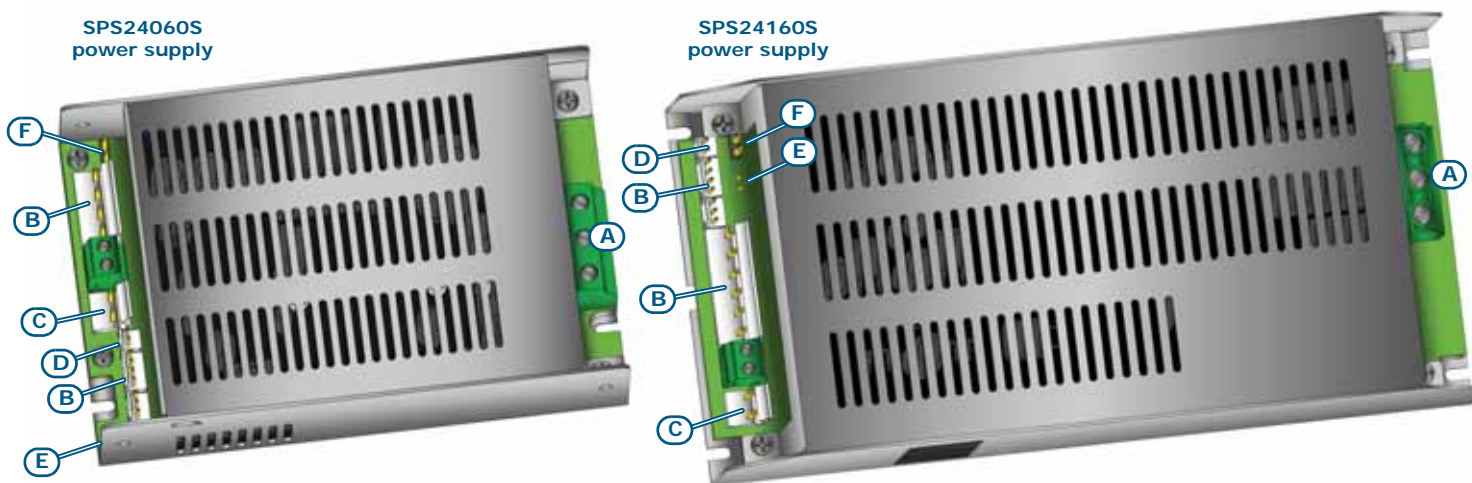
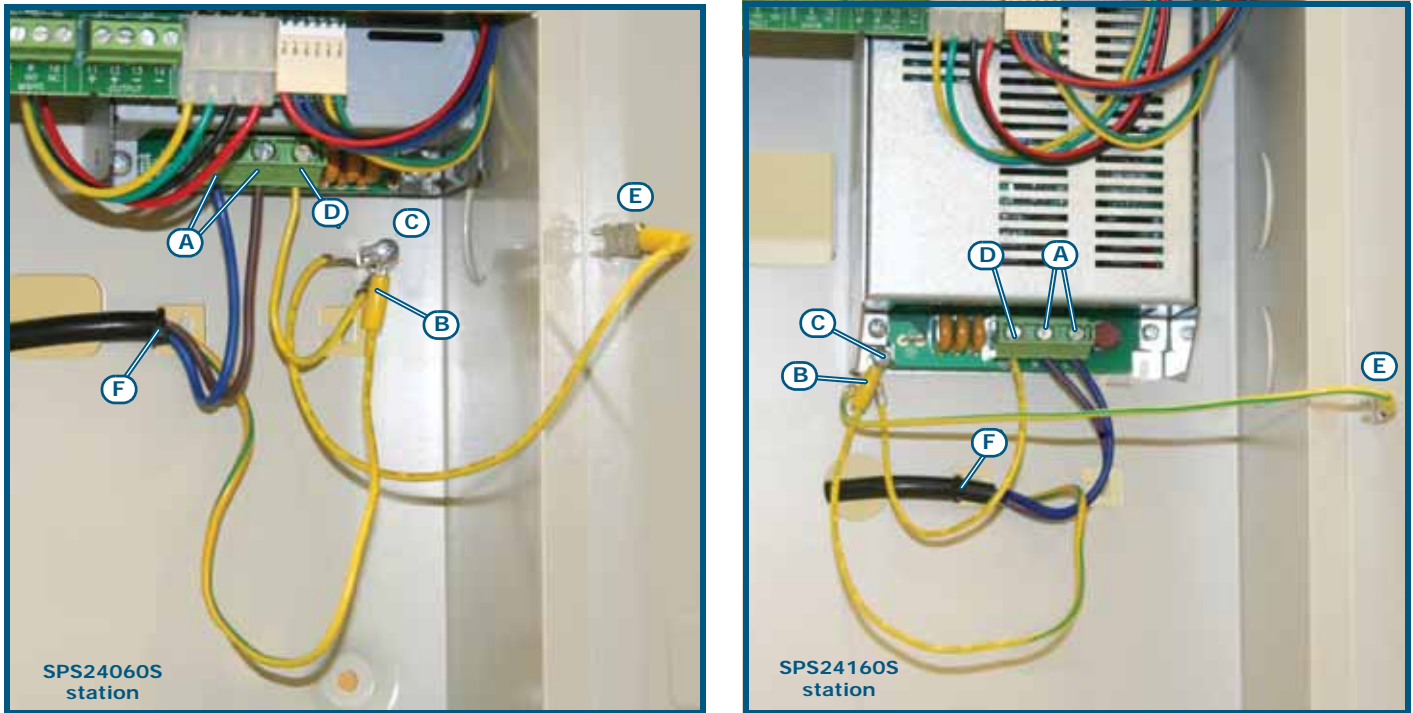

Figure 6 - Switching power supply
Figure 8 - Earthing system
1. Connect the mains power supply to the terminals on the power-supply module (*Figure 6 - Switching power supply, [A]* and *Figure 8 - Earthing system, [A]*).
- Insert the two 12V batteries and connect them to the power supply module (*Figure 6 - Switching power supply, [C]*).
- Connect the terminal [C] of the battery wire to the proper connector of the power-supply unit (*Figure 6 - Switching power supply, [C]*).